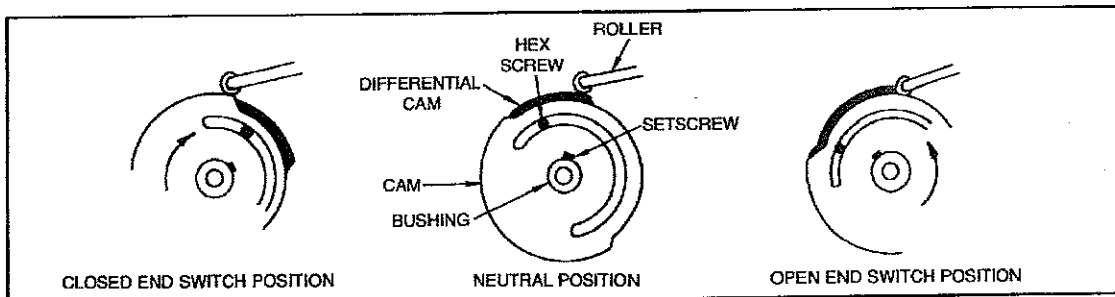

FIGURE 36 - Cam Adjustment for Eight-Stage Electric Thermostat
1. Apply power to the motor controller. Then turn power on and off. This will cause the motor to turn the cams to the start position as power is interrupted and then resumed. As the cams are turned, an audible click will be heard as each end switch closes. This occurs as the roller moves the cam rise to the high cam position. See Figure 36.
4. Move the differential cam clockwise until the roller is just on the high part of the differential cam. This is the neutral position. See Figure 36.